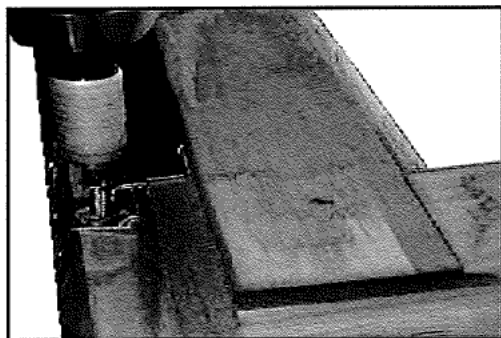

Fig A14
23. Open the window fully in order to fit a further 2x 25mm screws per hinge (Fig. A14).